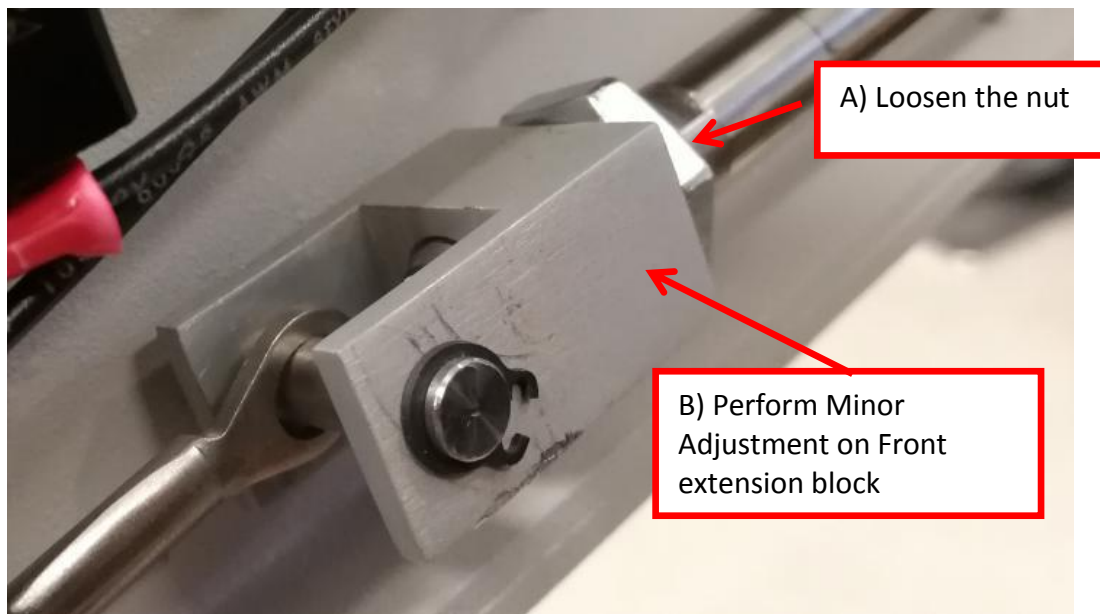

Figure 28
- i. If gap persist, may perform minor adjustment on the Front Extension Block & Nut. May refer to below Figure 28.